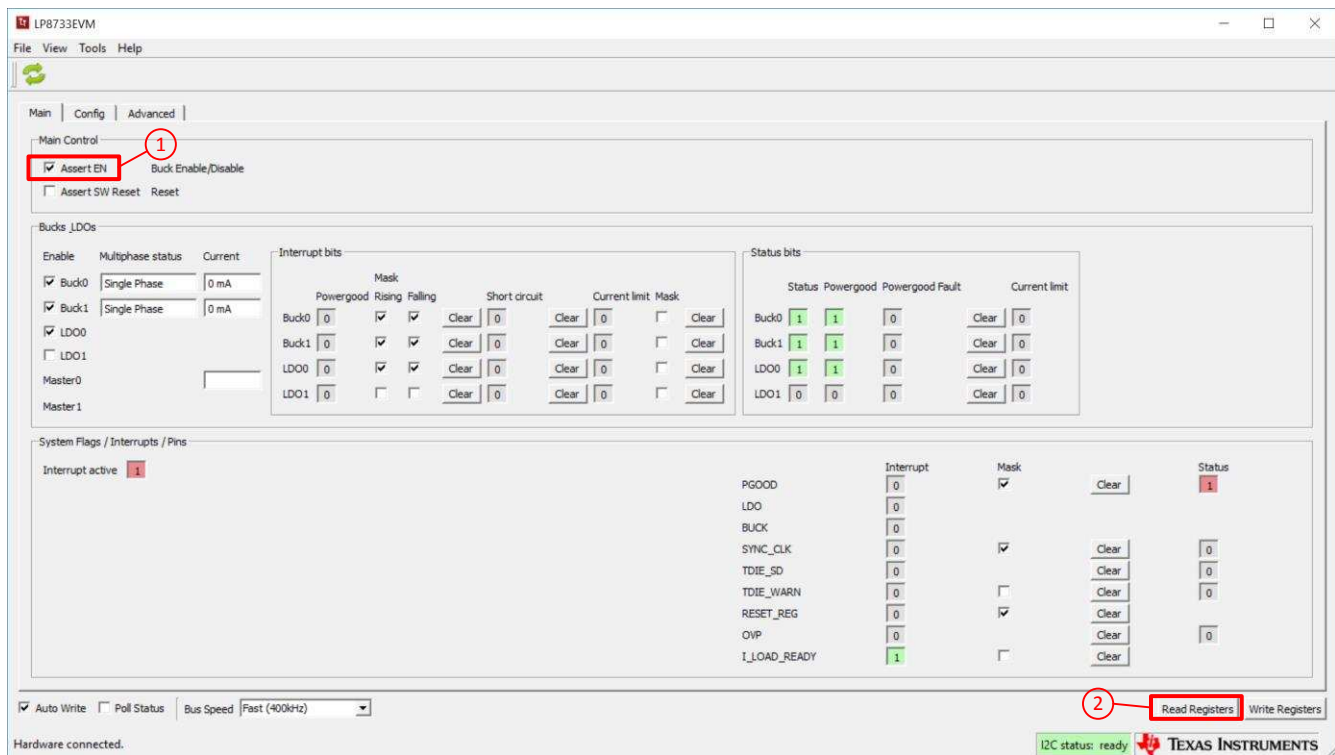

Figure 3. Evaluation Software GUI Showing Steps Needed to Power up the LP8733xEVM and LP8732xEVM
1. Click on Assert EN check box. See marking 1 in Figure 3.
2. Click on Read Registers button (marking 2 in Figure 3). User should see “I2C Status: ready” message on the green background next to the Read Registers button.